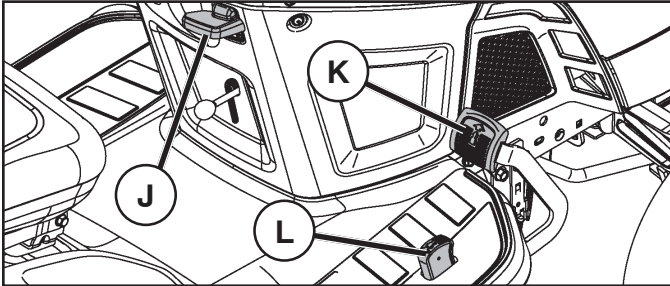

Fig. 23
(See Fig. 23)
- Slowly depress forward (K) or reverse (L) drive pedal to begin movement. Ground speed increases the further down the pedal is depressed.
## TO USE CRUISE CONTROL (J) (See Fig. 23)